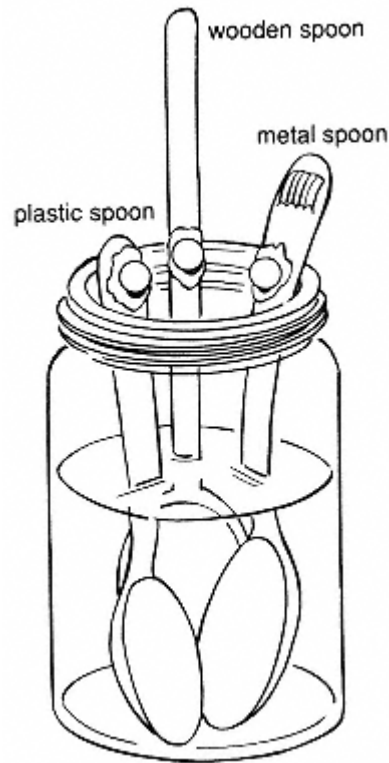

Figure 30.3
4. Some materials conduct or transfer heat better than others. Place the bowls of a wooden, a plastic, and a metal spoon in a 1-pint (500-ml) jar. Use equal-size balls of margarine to secure plastic beads to the handles of the spoons, with all the beads at the same height from the bottom of the jar. Pour about 4 inches (10 cm) of hot water into the jar (see Figure 30.3). As heat is conducted up a spoon, the margarine melts, causing the bead to fall. The faster the bead falls, the faster the heat energy is conducted up the spoon. Rate the conductivity of the materials. You could display the results along with photographs taken during the experiment.